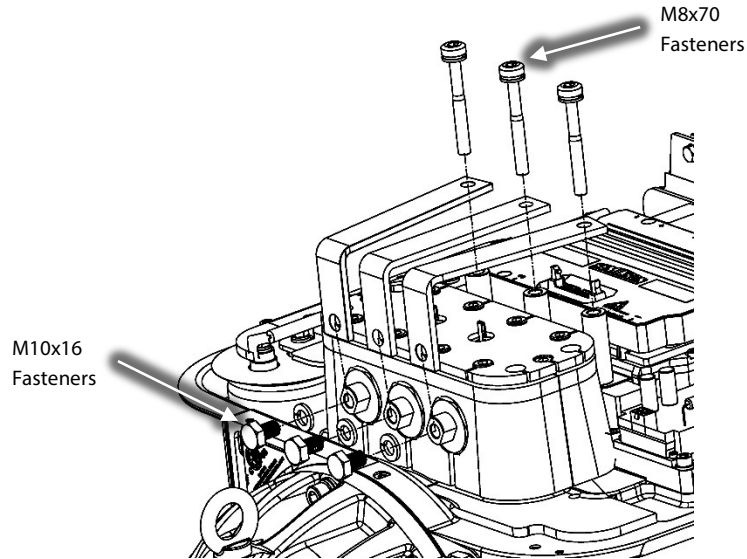

Figure 15 – Motor Bus Bar Removal
27. Remove the M10x16 and M8x70 fasteners to release the three (3) bus assembly connections between the IGBT assembly and the high-power feed through. Refer to Figure 15 (Motor Bus Bar Removal).